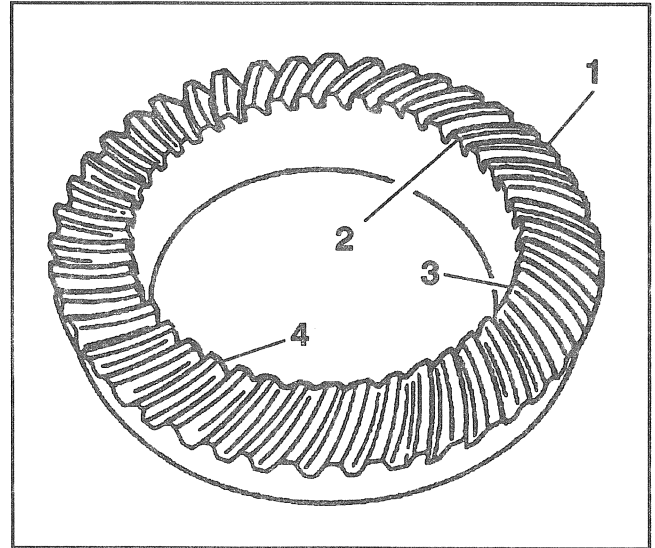

Figure 29—Gear Tooth Nomenclature
The side of the ring gear tooth which curves outward, or is convex, is referred to as the "drive" side (4). The concave side is the "coast" side (3). The end of the tooth nearest the center of ring gear is referred to as the "toe" end (2). The end of the tooth farthest away from the center is the "heel" end (1). The toe end of the tooth is smaller than the heel end (Figure 29).